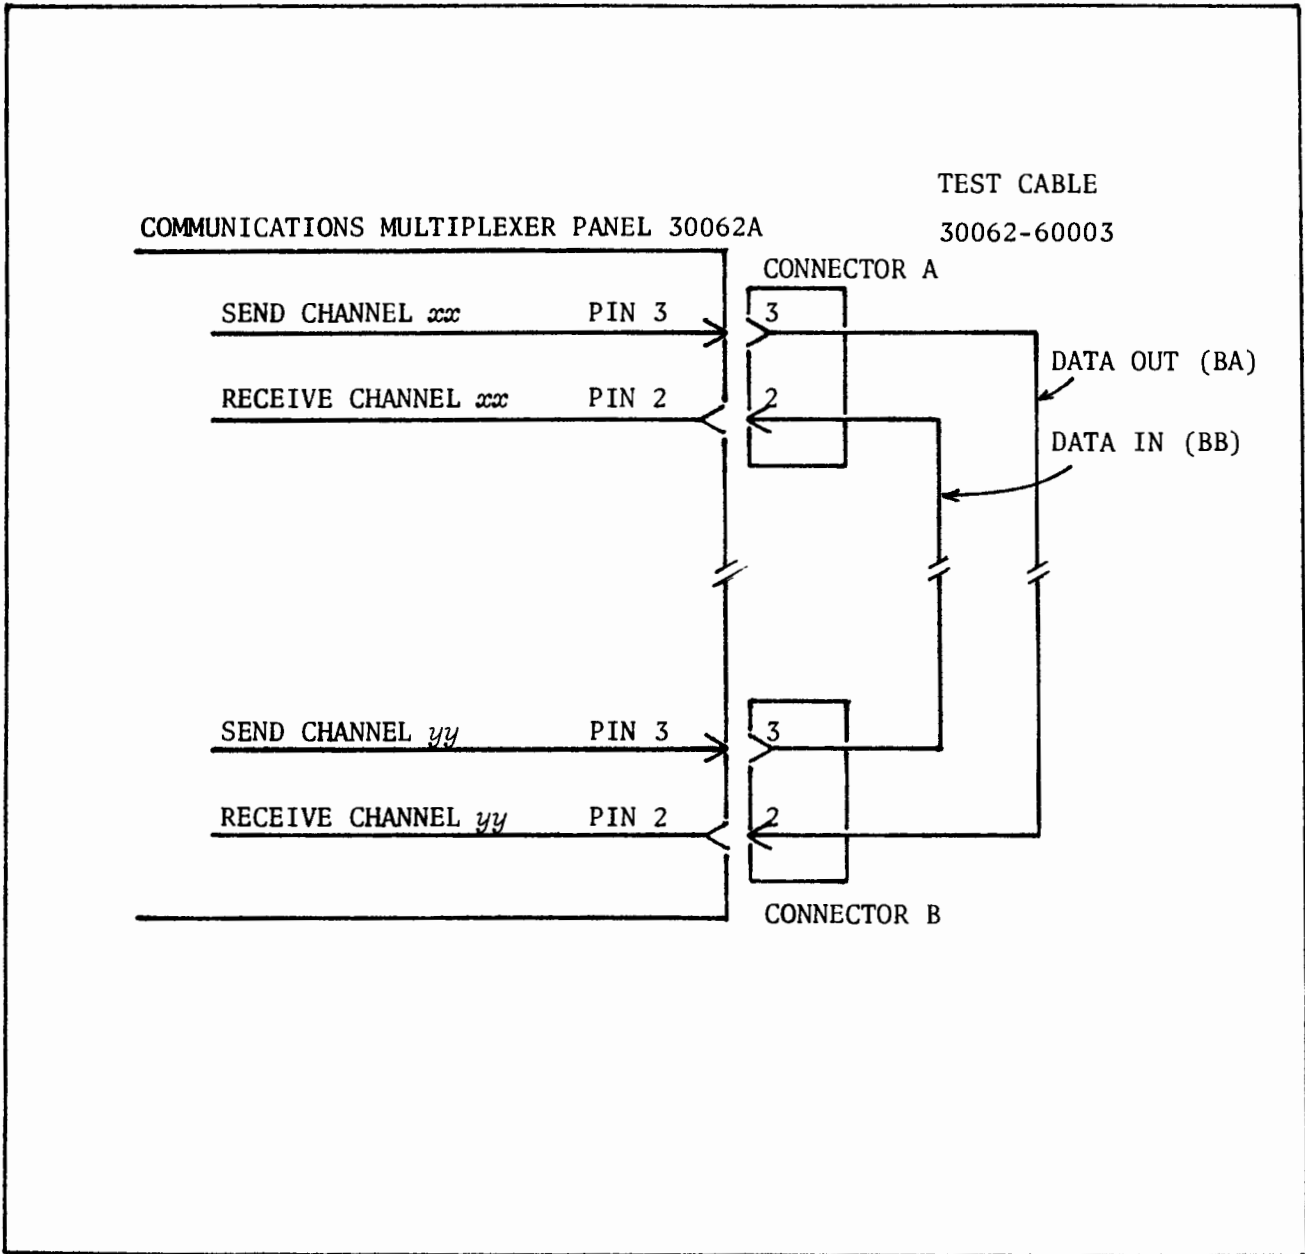
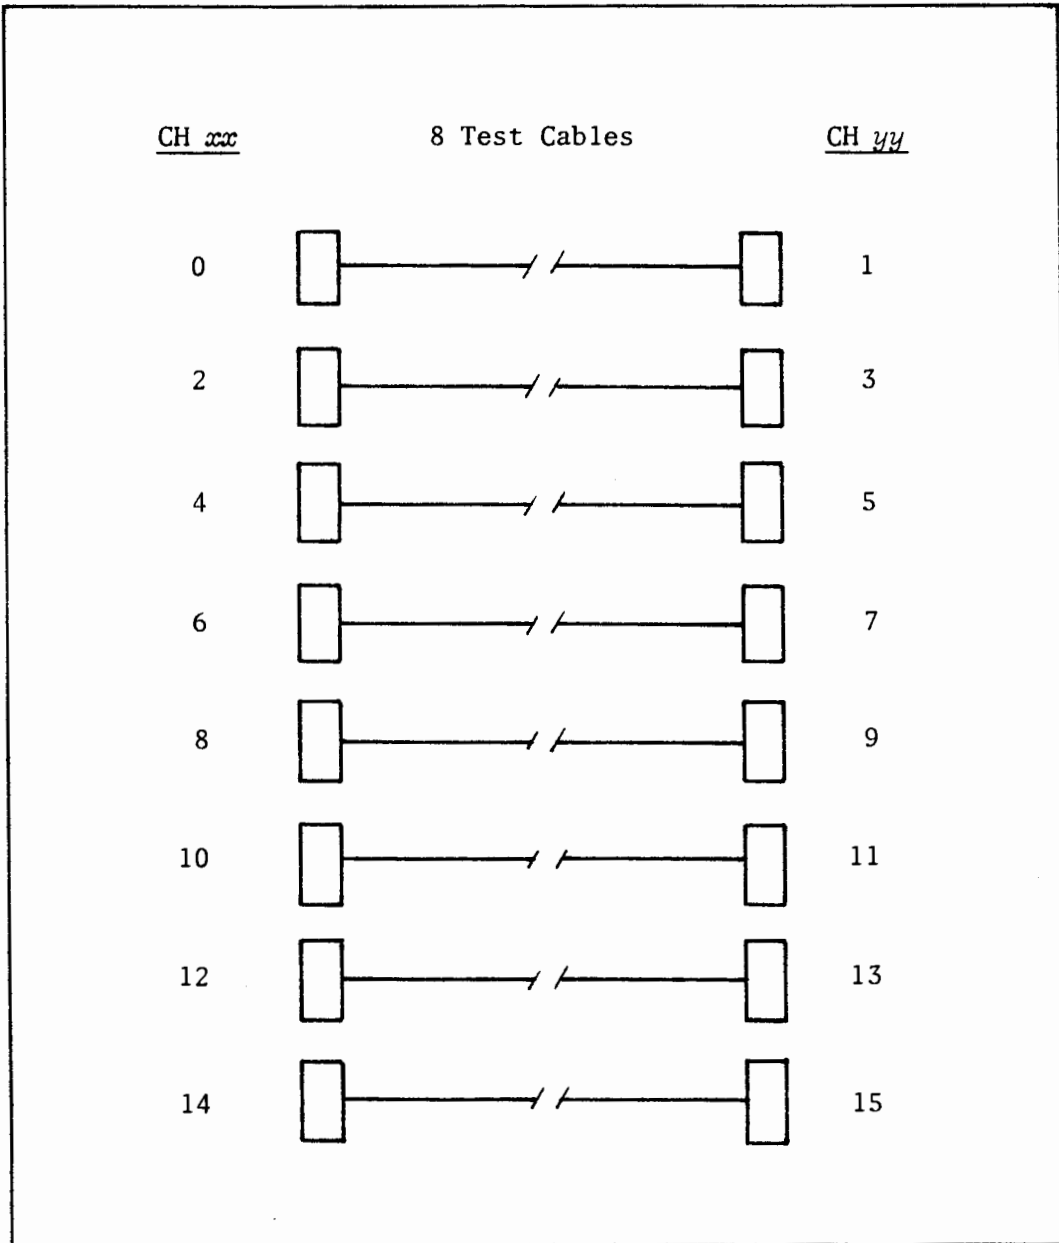

Figure MDI-1
Figure MDI-2
Mode 1 tests two channels. The user attaches the HP 30062-60003 test cable to the two channels on the multiplexer panel (Figure MDI-1). He indicates which pair of channels the program is to test by setting the switch register according to Table MDI-2. The channels tested can be changed by returning to the CFGCH routine and setting new channel numbers into the switch register according to Table MDI-2.
Mode 2 tests all 16 send/receive channels (eight pairs) in sequence. The user must obtain seven additional HP 30062-60003 test cables and connect them according to Figure MDI-2. To indicate that the diagnostic is to test all 16 multiplexer channels, set on bit 15 of the switch register (Table MDI-2).
- k. Install the test cable to the multiplexer channels chosen in step j. If all 16 channels are to be tested (bit 15 set on in step j) install eight test cables according to Figure MDI-2. If only two channels are to be tested, install one test cable according to Figure MDI-1.
- j. Install the test cable to the multiplexer channels chosen in step i. If all 16 channels are to be tested (bit 15 on in step i) install eight test cables according to Figure MDI-2. If only two channels are to be tested, install one test cable according to Figure MDI-1.